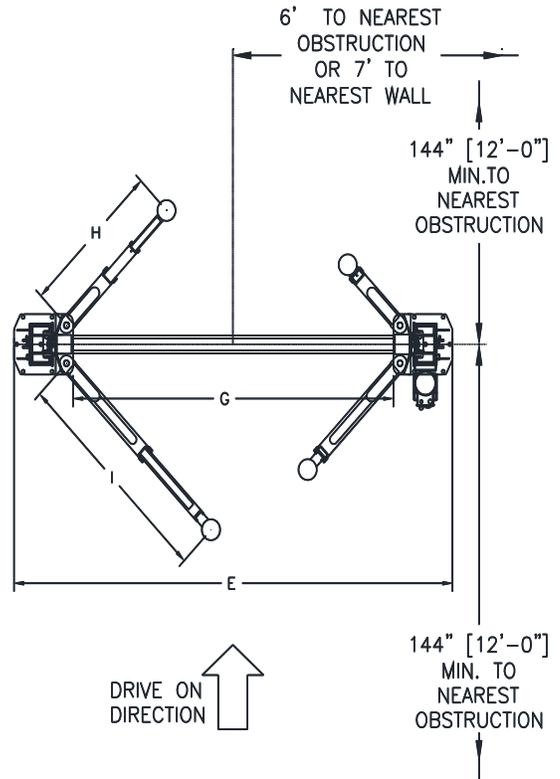
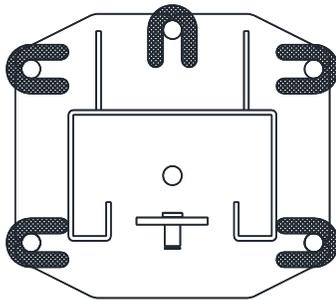

Fig. 1b - Service Bay Layout
**Fig. 2 – Baseplate Layout**
- Layout the service bay according to the architect's plans or owner's instructions (**see Fig 1b**). **Failure to install in this orientation can result in personal and property damage.** Be certain that the proper conditions exist, see **Pg 3**.
- Using the Overall Width (C) Dimension from **Fig 1b**, chalk two parallel lines on the floor within 1/8" tolerance. Erect both column assemblies. Align the base plate edges to the chalk lines. See **Fig 2**.